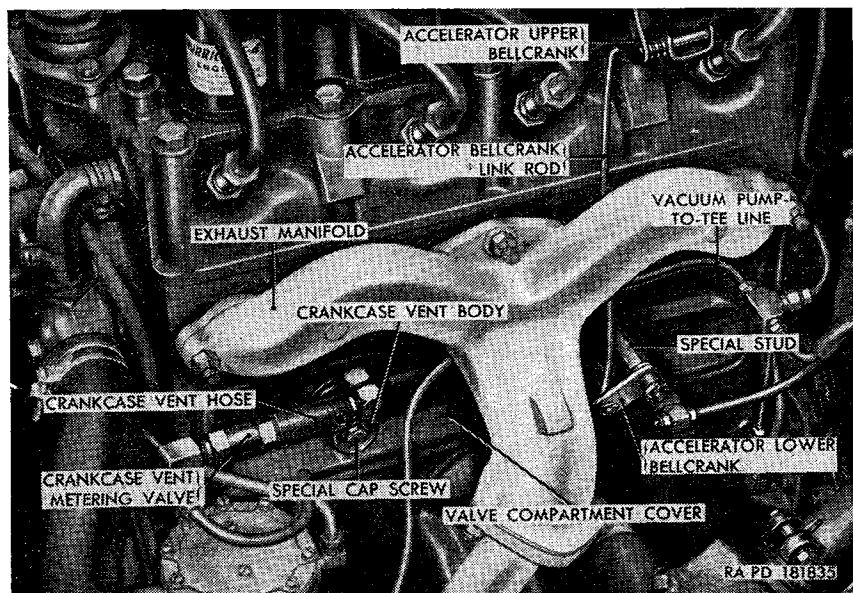

Figure 42. Valve compartment cover—installed.
109. Valve Compartment Cover and Gasket (fig. 42)
(1) Raise the hood (par. 255a).
(2) Disconnect the exhaust pipe from the exhaust manifold assembly (par. 146a(1)).
(3) Remove the five self-locking nuts securing the exhaust manifold assembly (fig. 42) to the studs mounted in the cylinder block. Remove the plain washer from the top center stud. Pull the clip securing the vacuum pump-to-tee line from the right lower stud.
(4) Pull the exhaust manifold away from the engine until it clears the studs in the cylinder block and then up to disengage the exhaust pipe from the stud in the manifold.
- (5) If the studs in the cylinder block are damaged, remove them.
- (1) If any studs were removed from the side of the cylinder block, install them. Use $\frac{3}{8}$ -16NC-2 x $\frac{3}{8}$ -24NF-3 x $1\frac{1}{8}$ studs in the lower center holes and the two end holes, and a $\frac{3}{8}$ -16NC($\frac{1}{2}$) x $\frac{3}{8}$ x $\frac{3}{8}$ -24NF($\frac{7}{8}$) x $1\frac{3}{4}$ stud in the top center hole on the side of the cylinder block.
- (2) Aline the holes in the exhaust manifold assembly (fig. 42) with the studs in the cylinder block and position the exhaust manifold on the studs. Place a $1\frac{1}{2}$ -inch plain washer on the top center stud. Place the clip securing the vacuum pump-to-tee line on the right lower stud. Secure the manifold to the studs with five $\frac{3}{8}$ -inch self-locking nuts. Tighten nuts to a torque of 29–35 foot-pounds.
- (3) Connect the exhaust pipe to the exhaust manifold assembly (par. 146*b* (1), (3), and (5)).
- (4) Close the hood (par. 255*b*).